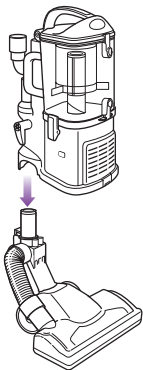

Fig. 7
- 2 Align the tube of the floor nozzle with the tube on the detachable canister and lower until you hear the two pieces click into place. (Fig. 7)
- 1 Separate the detachable canister from the floor nozzle. (See page 8, Fig. 7.)